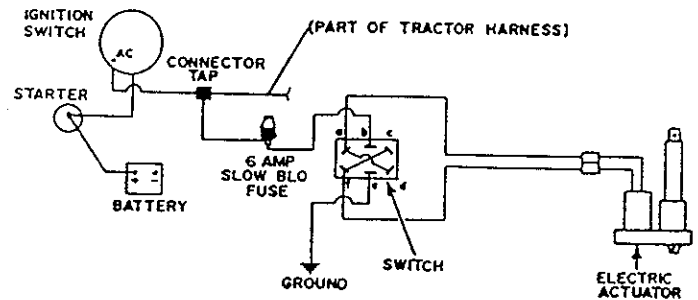

FIGURE 11
- f) Solder one 18" wire to the side terminal of fuse holder and the other 18" wire with eyelet to the bottom terminal (see figure 11).
- h) Connect eyelet end of 18" wire to "b" terminal on control switch (see fig.11).
- i) Connect one end of the 17" wire to the "a" terminal on the control switch (see fig. 11). Connect other end to a suitable ground on the tractor frame.
- j) Connect one end of one 5" wire to the "a" terminal on control switch (see fig. 11). Connect other end to the "d" terminal on control switch (see fig.11).
- k) Connect one end of the other 5" wire to the "c" terminal on control switch (see fig. 11). Connect other end to the "f" terminal on control switch (see fig.11).
- l) Connect eyelet end of the 102" double wire to the "a" & "f" terminals on control switch (see fig.11).